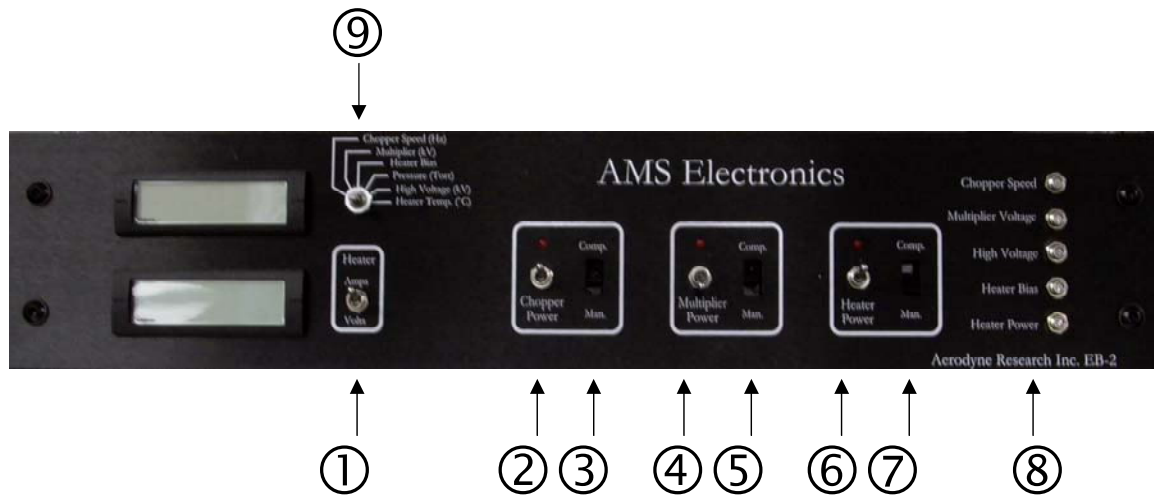

Figure 15: Electronics Box, front panel controls
1. Turn on the switch for the AMS Electronics on the AMS Power Supply Box (SW 3 in Figure 12, page 7). Set the 6-position selector switch on the Electronics Box (EB) to "Pressure" (torr) position (Ⓢ in Figure 15, page 32). Verify that the 3-way Whitey valve connecting the 10 torr Baratron gauge is in the "inlet" position. Obtain a reading of the vacuum chamber pressure on the liquid crystal display on the Electronics Box. For the 10 torr range gauge, a display of ~12 indicates that the gauge is over range.
4. After all pumps are at full speed, turn on the Balzer Quadrupole power supply and the vaporizer power (Electronics Box ©, Figure 15).
8. Once an emission current of 0.25 mA is reached, the system should, ideally, pump overnight before use. A calibration done before ~ 24 hours of pumping will likely be different than one performed after several days. A gradual increase in performance, an increase in Ionization Efficiency (IE) and Air Beam (AB) values, is usually observed over a week-long period.